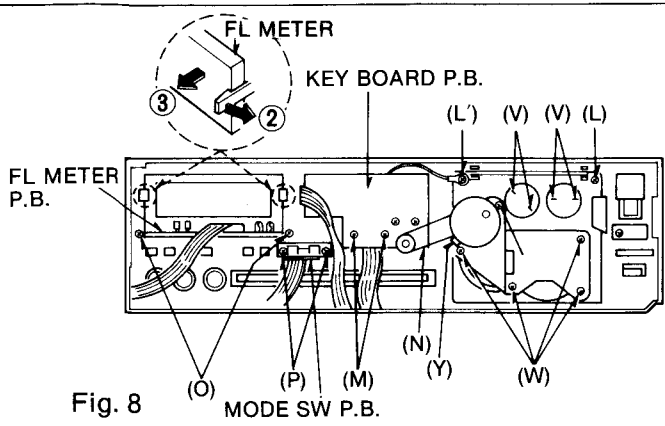

Fig. 8
| 5 | 1 → 5 | FL meter circuit board | <ul style="list-style-type: none"> • Cord clamber(I) • 2 screws(O) • As shown in fig. 8, remove the clamber in the direction of arrow ② and remove the FL meter P.B. in the direction of arrow ③. | 3 8 8 |